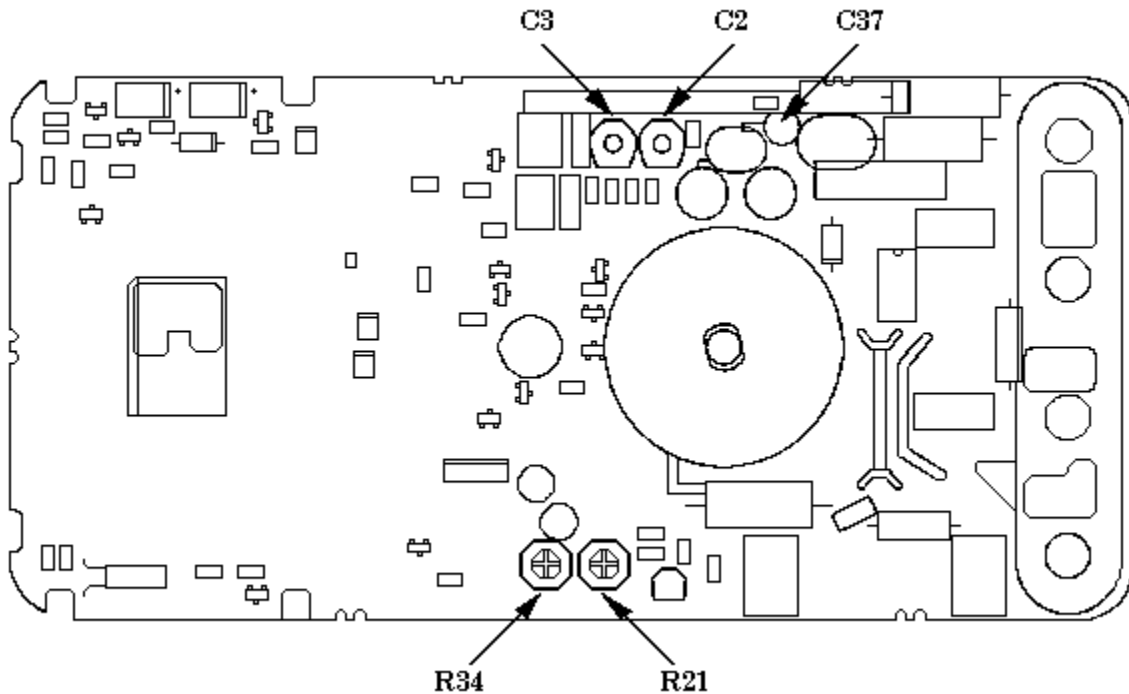

Figure 1. Adjustment locations.
- (1) Set function switch to V_{DC} .
- (2) Set calibrator for an output of 3.900 V dc.
- (3) Adjust R21 (fig. 1) until TI indicates 3.900 V dc (R).
- (4) Repeat a (1) through (4) above.
(1) Set calibrator for an output of 3.513 V at a frequency of 50 Hz.
(2) Adjust R34 (fig. 1) until TI indicates 3.500 V ac (R).
(3) Change calibrator output amplitude to 100.0 V at a frequency of 20 k Hz.
(4) Adjust C37 (fig. 1) until TI indicates 100.0 V ac (R).
(5) Change calibrator output amplitude to 3.500 V at a frequency of 10 kHz.
- (6) Adjust C2 (fig. 1) until TI indicates 3.500 V ac (R).
- (7) Change calibrator output amplitude to 35.00 V at a frequency of 10 kHz.
- (8) Adjust C3 (fig. 1) until TI indicates 35.00 V ac (R).